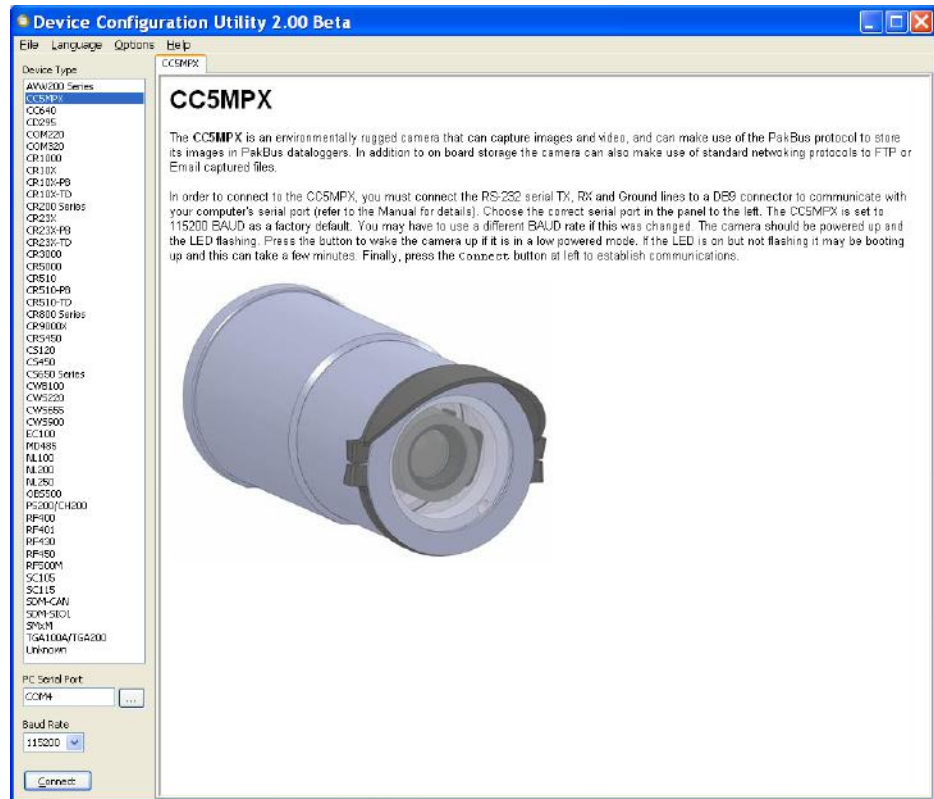

Figure 12-1 CC5MPX Device Configuration Option
- Select the CC5MPX from the device list (see Figure 12-1) and connect to the camera.